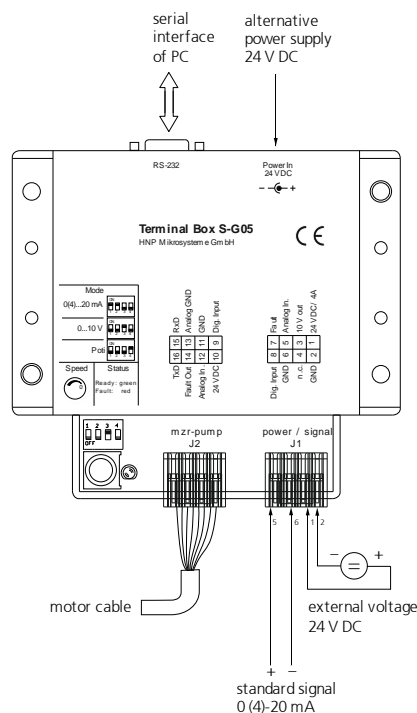

figure 17
4. Connect the external current source to the screw clamps »AnalogIn« and »GND« to the S-G05. (see figure 17).